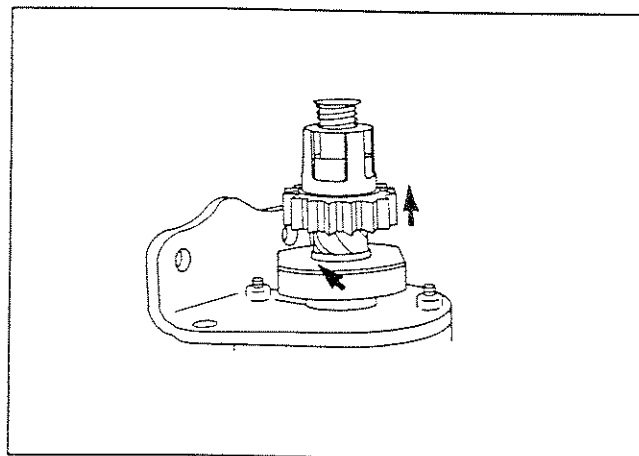

Figure 7. Checking Pinion Gear Operation
4. Check starter pinion operation (Figure 7).